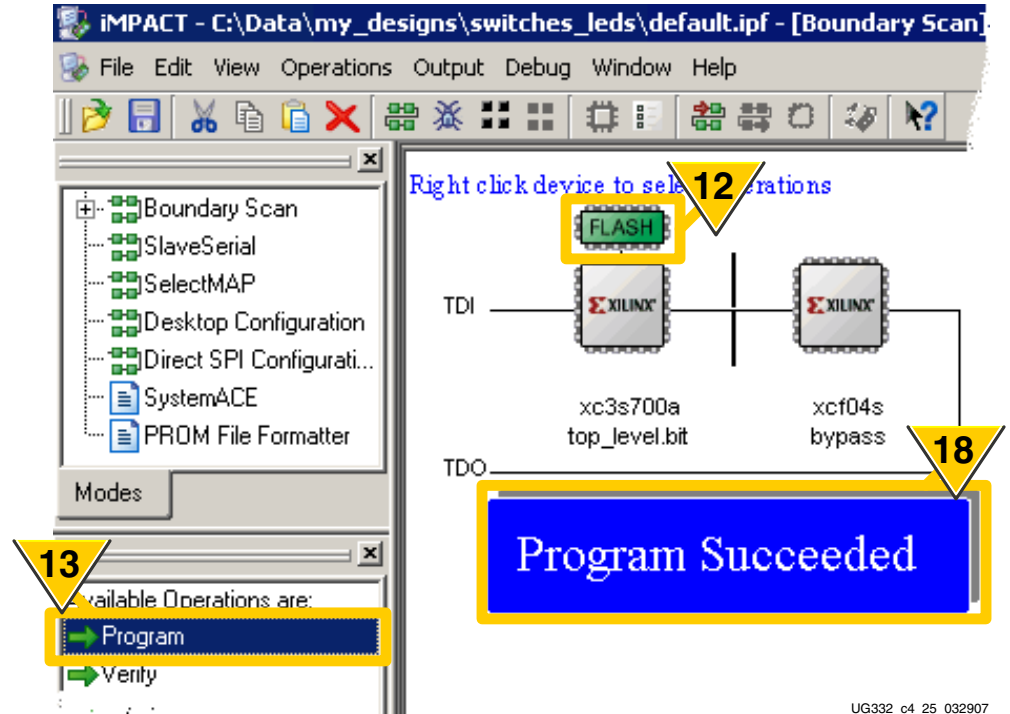

Figure 4-27: iMPACT Presents JTAG Chain, Shows Attached Flash PROM
12. As shown in Figure 4-27, the iMPACT software then displays the JTAG chain for the XC3S700A Spartan-3A FPGA followed by the XCF04S Platform Flash PROM. Click to highlight the FLASH memory attached to the XC3S700A FPGA. This action enables the command options shown in Step 13.